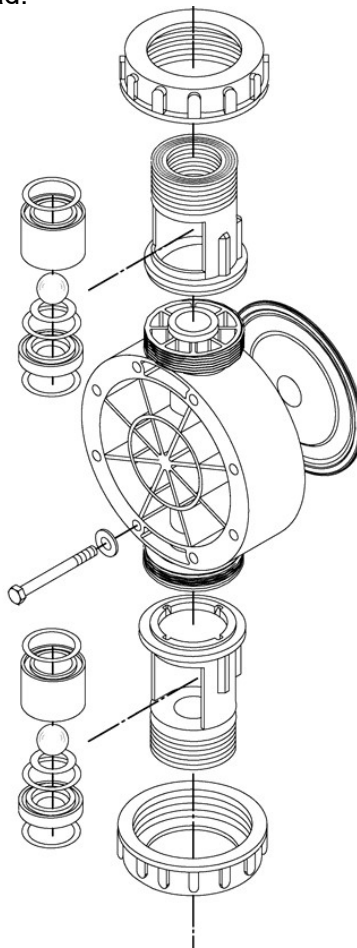

Figure 9, wet end components
15. Reassemble the piping connections and check valves to the reagent head, using care to orient all check valve parts properly (refer to *figures 9 and 12*).